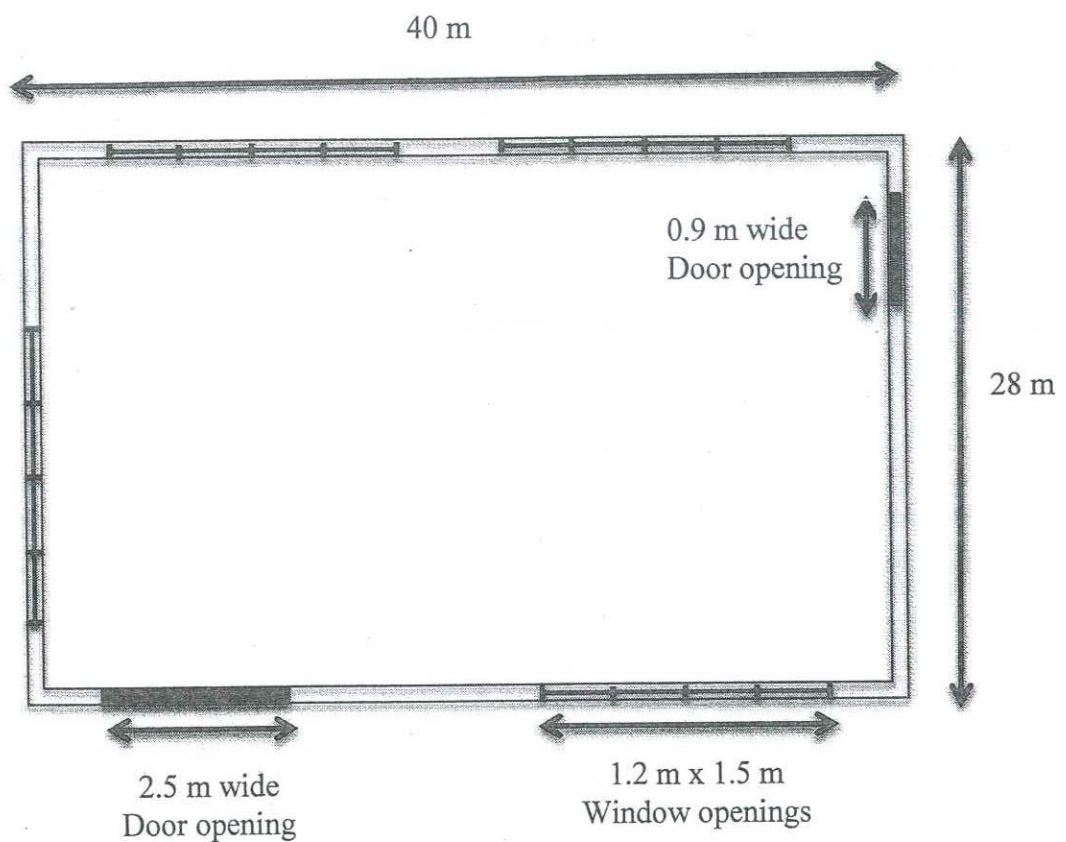

Figure Q4: Building plan (Not to a scale)
- Q4. An office is located in a single-storey building with dimensions 40 m x 28 m. The plan of the building is shown in Figure Q4. This building consists of steel framed glass windows, with a flat roof and brick walls. There are four sets of windows (1.2 m x 1.5 m each) and two door openings (2.5 m x 2.2 m and 0.9 m x 2.2 m). The height of the building is 4 m.